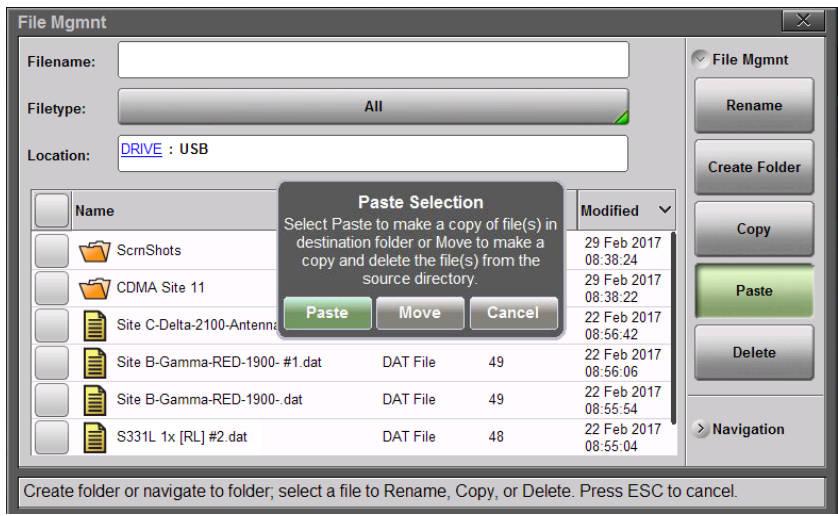

Figure 8-20. Paste File
7. Navigate to the destination folder as needed, then press **Paste** to either copy or move the selected files and folders from internal memory to the USB drive. See Figure 8-20.
Paste: Press this submenu key to paste the selected files and/or folders to the destination location. In the message box that appears (see Figure 8-20 on page 8-17), press Paste to create duplicate copies in the destination folder; press Move to place copies in the destination folder and remove the selected files from the source location. If files or folders with the same name already exist in the destination location, the Site Master will ask you to confirm that the existing files should be overwritten.
<div> <p>The image shows the Recall Menu interface. It has a left sidebar with two sections: 'File Recall' and 'Navigation'. The 'File Recall' section contains five buttons: Recall, Create Folder, Copy, Paste, and Delete. The 'Navigation' section contains four buttons: Top, Bottom, Page Up, and Page Down. The main area on the right contains detailed instructions for each of these actions.</p> </div>	<p>File Recall:</p> <p>Recall: Press this submenu key to recall the selected file. Measurements, setups, or screen shots can be recalled.</p> <p>Recalled measurements are first displayed on the Site Master as a preview. Press Enter to complete recalling the measurement or press ESC to cancel the recall and return to the File Recall menu. Refer to "Recall File" on page 8-8 for additional information.</p> <p>Recalled setups change the current setup including measurement type, frequency/distance, amplitude, marker, and limit data.</p> <p>Recalled screen shots are previewed on the Site Master. Press ESC to return to the File Recall menu.</p> <p>Create Folder: Press this submenu key to create a new folder in the highlighted location or folder. Name the new folder with the onscreen keyboard and press Save.</p> <p>Copy: Press this submenu key to mark the selected files and/or folders for copying or moving, using the Paste command. Use the checkbox column to select multiple items to copy or move.</p> <p>Paste: Press this submenu key to paste the selected files and/or folders to the destination location. In the message box that appears (see Figure 8-20 on page 8-17), press Paste to create duplicate copies in the destination folder; press Move to place copies in the destination folder and remove the selected files from the source location. If files or folders with the same name already exist in the destination location, the Site Master will ask you to confirm that the existing files should be overwritten.</p>
<div><div>▼ File Mgmnt</div><div><div>Rename</div><div>Create Folder</div><div>Copy</div><div>Paste</div><div>Delete</div></div></div> <div><div>▼ Navigation</div><div><div>Top</div><div>Bottom</div><div>Page Up</div><div>Page Down</div></div></div>	<p>File Mgmnt:</p> <p>Rename: Press this submenu key to rename a selected file or folder. The current name is displayed for editing or appending. Press Save or Enter to complete.</p> <p>Create Folder: Press this submenu key to create a new folder in the highlighted location or folder. Name the new folder with the onscreen keyboard and press Save.</p> <p>Copy: Press this submenu key to mark the selected files and/or folders for copying or moving, using the Paste command. Use the checkbox column to select multiple items to copy or move.</p> <p>Paste: Press this submenu key to paste the selected files and/or folders to the destination location. In the message box that appears (see Figure 8-20 on page 8-17), press Paste to create duplicate copies in the destination folder; press Move to place copies in the destination folder and remove the selected files from the source location. If files or folders with the same name already exist in the destination location, the Site Master will ask you to confirm that the existing files should be overwritten.</p> <p>Delete: Press this submenu key to delete the files and/or folders that are selected. Only files or folders from one location can be deleted at a time. Use the checkbox column to select multiple items to delete.</p> <p>Once an item is deleted, it cannot be recovered.</p> <p>Navigation:</p> <p>Top: Press this key to navigate to the top item of the current location.</p> <p>Bottom: Press this key to navigate to the bottom item of the current location.</p> <p>Page Up: Moves up one screen of items (7 rows) in the current location.</p> <p>Page Down: Moves down one screen of items (7 rows) in the current location.</p>